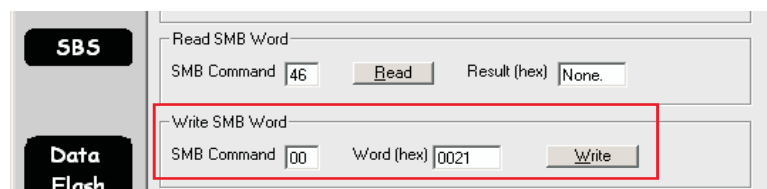

Figure 13. Fuel Gauging Command
11. To start fuel-gauging, navigate to the *Pro screen* in the EV software. Make sure that the *Write SMB Word* section reads: "SMB Command: 00 Word (hex): 0021" as shown in Figure 13, and click the *Write* button.